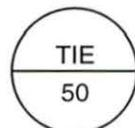

Figure 45. Instrument Tag
2. Determine the measured variable indicated in the instrument tag in figure 45.